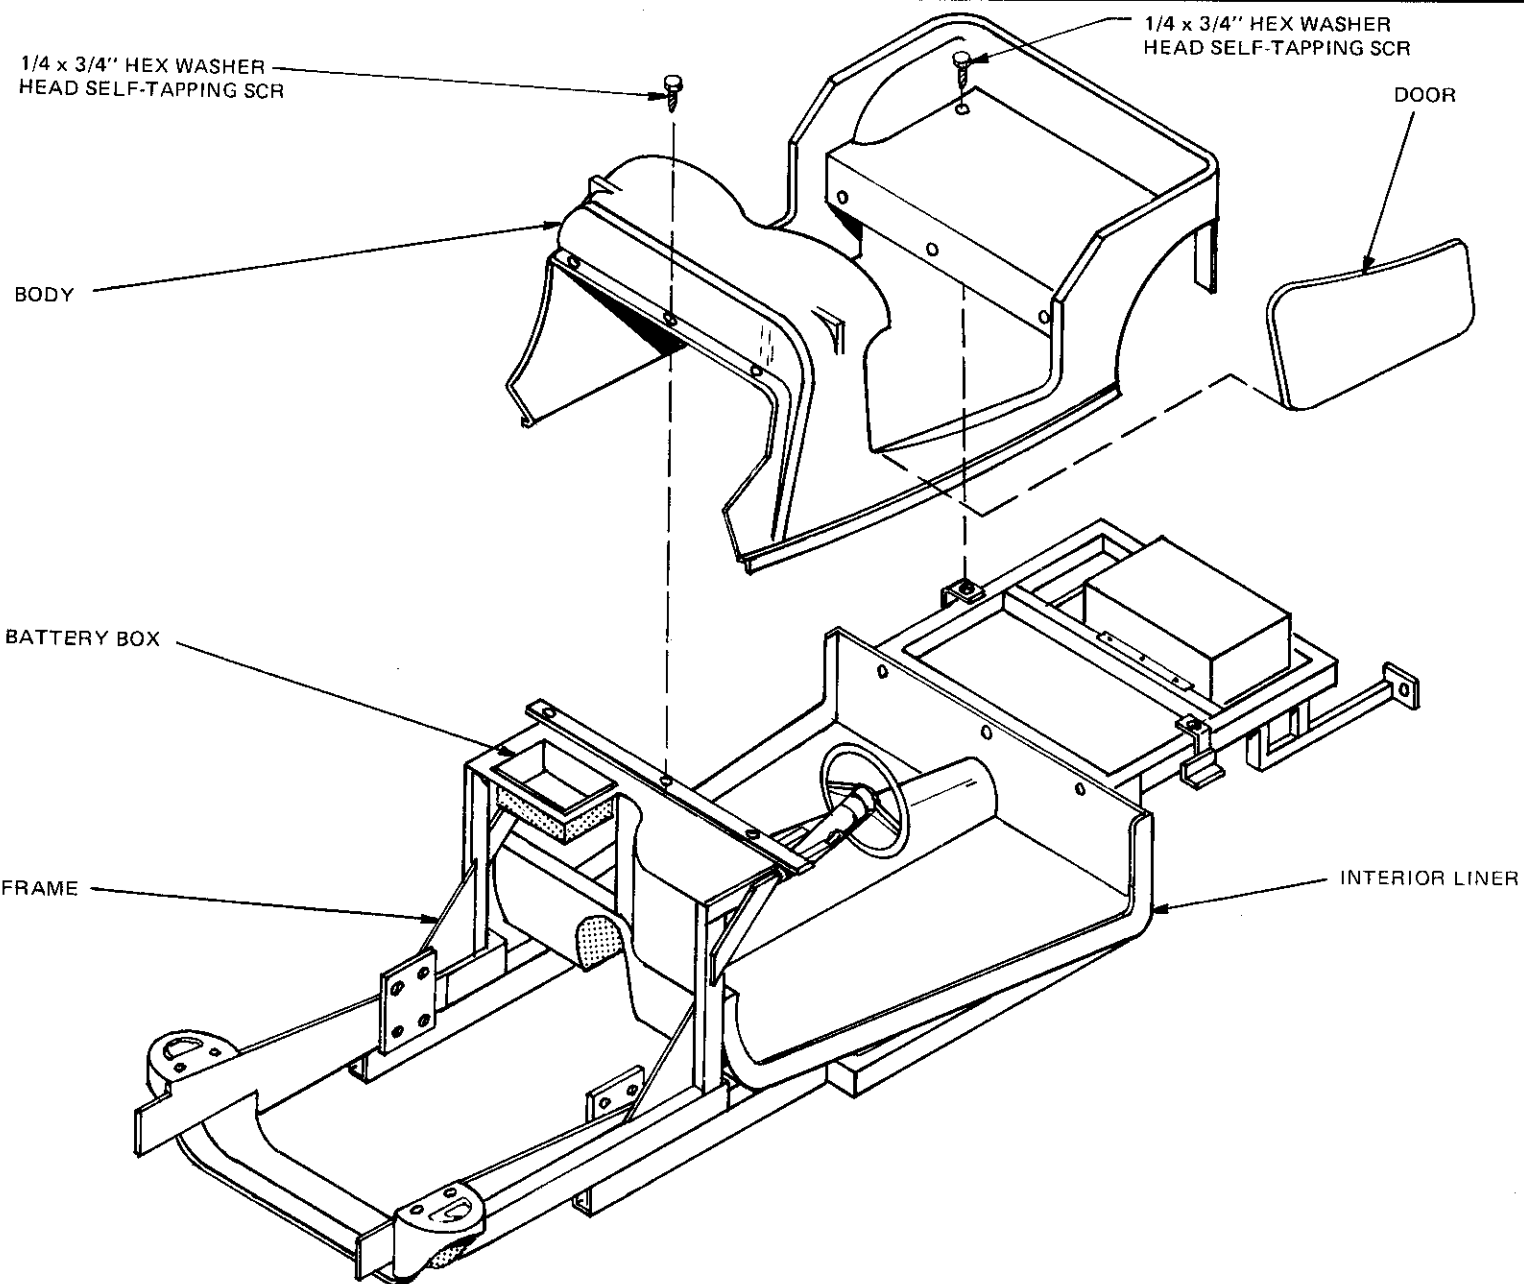

Figure 35
- ☐ Fit doors into body to check alignment. Shift the front of the body left or right to achieve the most even door fit. (Small gaps between door lip and body are normal and will be taken up by gasketing material.) When best position is found, drill through holes on front of body into frame (7/32" drill). Secure with 1/4 x 3/4" hex washer head self-tapping screws. (Figure 35)